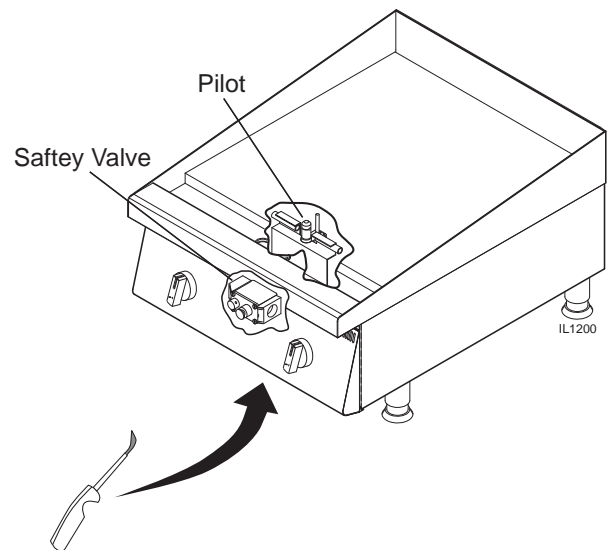

FIG 1, Place Lighter under griddle
2. Put lighter under the front of the griddle. FIG 1